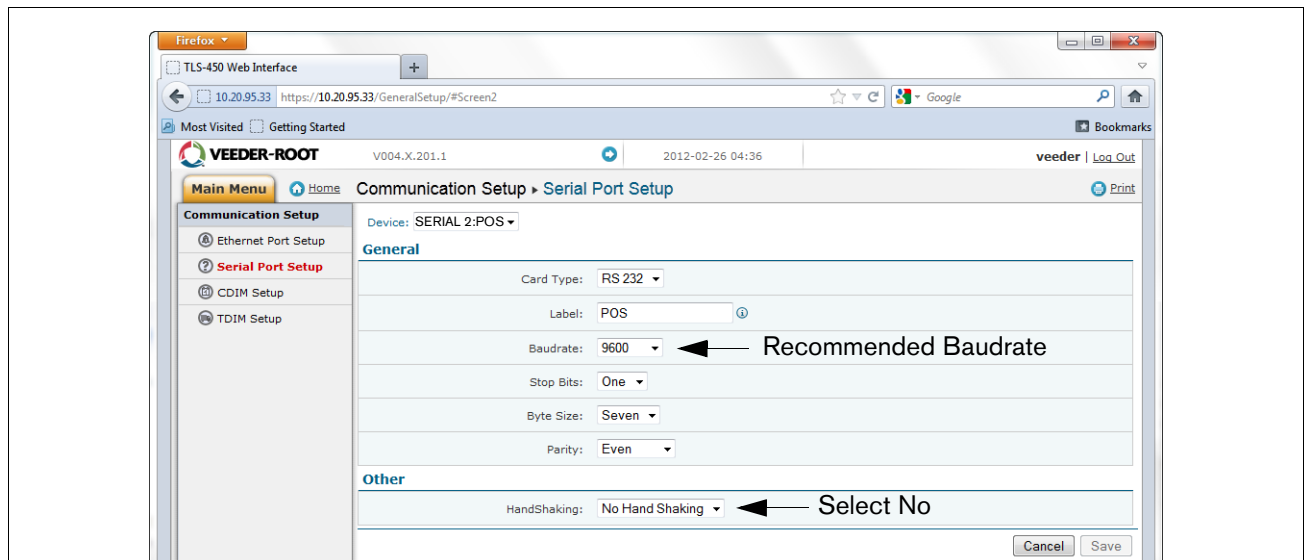

Figure B-5. Serial Port Setup, SERIAL 2- POS
8. On the Serial Port Setup page, in the “Device” field, select “SERIAL 2”. Use this connection for the connection to the POS, and enter “POS” for the Label. Set the correct communications parameters for the POS using the drop down menus. For HandShaking, select “No Hand Shaking”. Click the “Save” button to keep these settings (see example in Figure B-5).